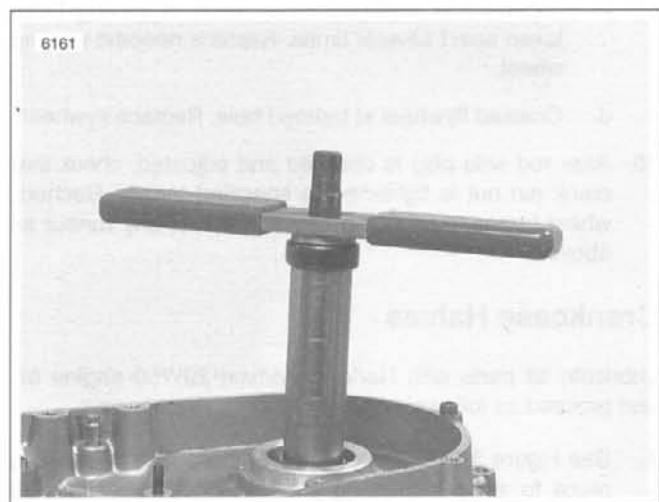

Figure 3-119. Installing Flywheel Spacer and Outer Bearing
- a. See Figure 3-119. Carefully place crankcase half over sprocket shaft so that it rests flat on inner bearing.